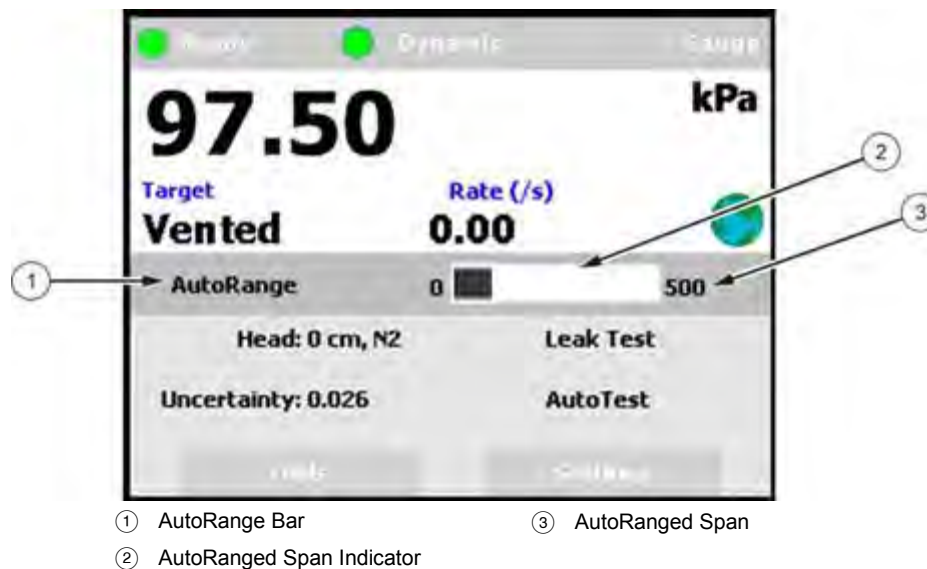

Figure 10. AutoRange Bar
- To verify or confirm the range from the Main Run Screen, use [AutoRange] from the Main Run Screen and view the **Range** field to view the active range (see Section 3.2.7) or view the AutoRange and active RPT spans and indicators from the AutoRanger bar on the main run screen (see Figure 10).
The AutoRange Bar in the middle of the PPC4E Main Run Screen displays the range and a graphical indicator of the measured pressure within the active AutoRanged Span (see Figure 10, showing a pressure of 97.5 kPa on a 500 kPa AutoRanged span).